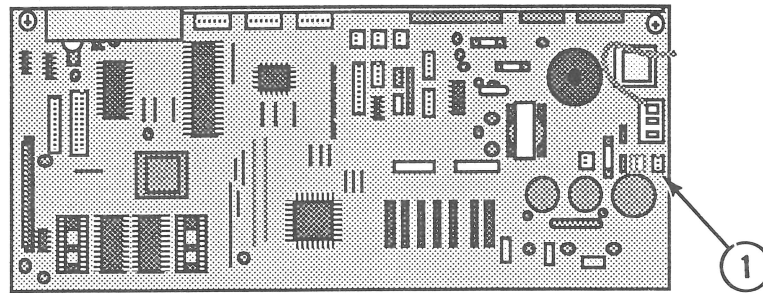

FIGURE 7
2. Disconnect the auto-load solenoid cable from main board connector CN8 (Figure 7, #1).